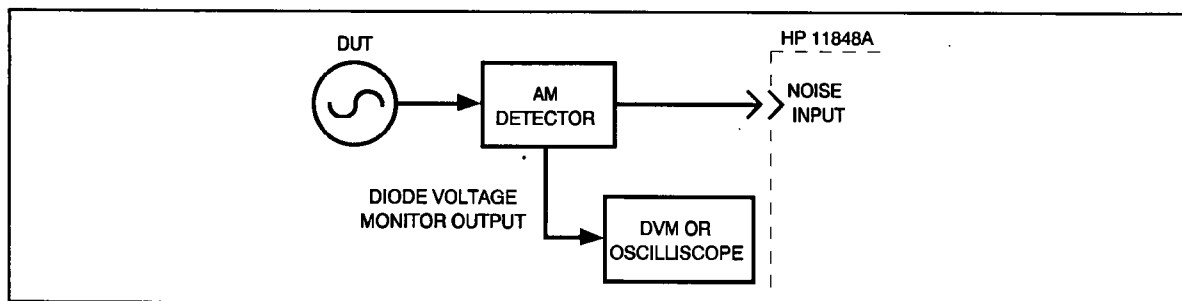

Figure 3-7. Modulation Sideband Calibration Setup
3. Measure the monitor output voltage on the AM detector with an oscilloscope or voltmeter. Locate the diode detector's dc voltage along the bottom of the AM sensitivity graph (figure 3-7). Moving up to the diagonal calibration line and over, the equivalent phase detector constant can then be read from the left side of the graph. The measured data will be plotted as single-sideband AM noise in dBc/Hz.